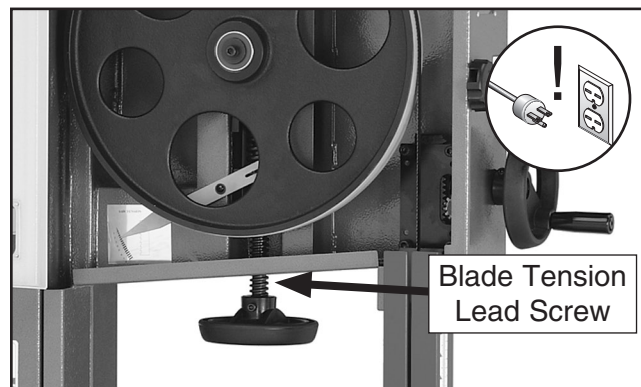

Figure 57. Blade tension leadscrew.
2. Wipe as much of the old grease off the leadscrews (**Figures 57 & 58**) as possible. The old grease will be contaminated with wood or metal dust, so you want to remove as much of it as possible.